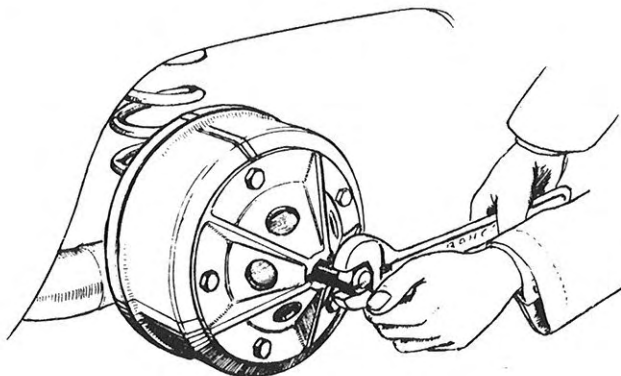

Fig. 22. Wheel puller
3. Remove brake drum with puller 92-3, see Fig. 22.
5. Pull off brake drum with tool 92-3, see Fig. 22.